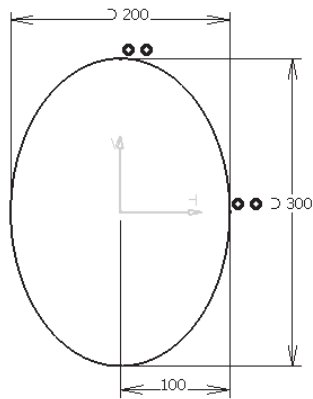

Figure 10-62 The guide curve
- Create a swept surface as the base feature, refer to Figures 10-62 through 10-64.
3. Draw an ellipse, as shown in Figure 10-62 and exit the **Sketcher** workbench.